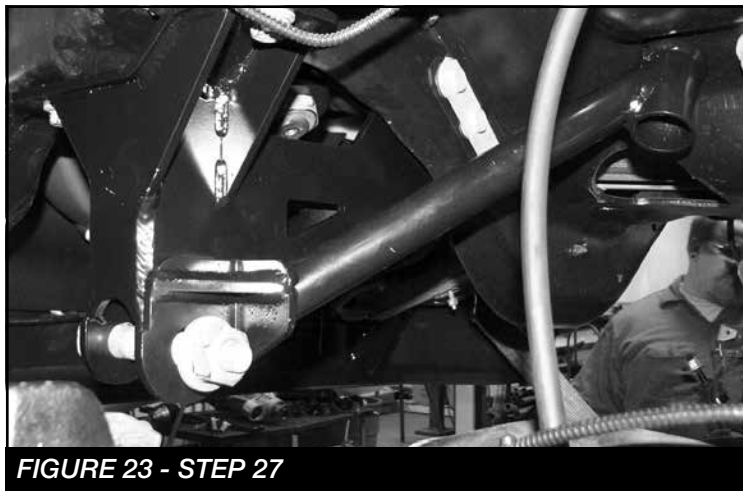

FIGURE 23 - STEP 27
27. Locate FT30273 trac bar support bracket and attach first to the forward motor mount bolt on the driver side of the truck, then line the other end up to the track bar bolt. Torque the factory motor mount bolt to 75 ft. lbs and the track bar bolt to 400 ft. lbs. **SEE FIGURE 23**